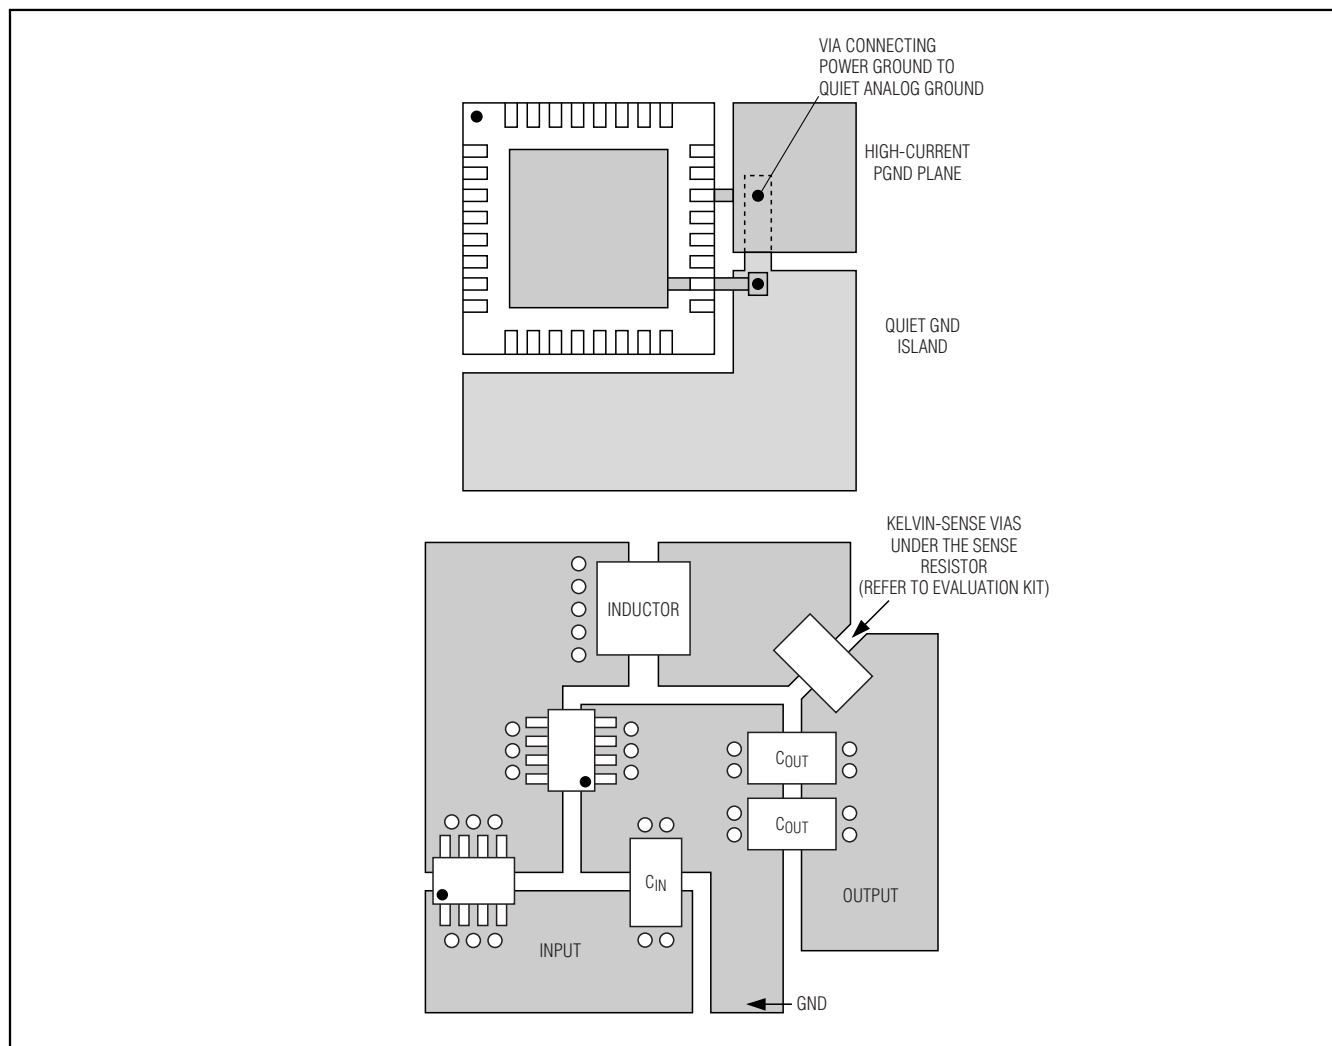

Figure 18. MAX1535B PC Board Layout Example
- 5) Use a single-point star ground placed directly below the part at the PGND pin. Connect the power ground (ground plane) and the quiet ground island at this location. See Figure 18 for a layout example.